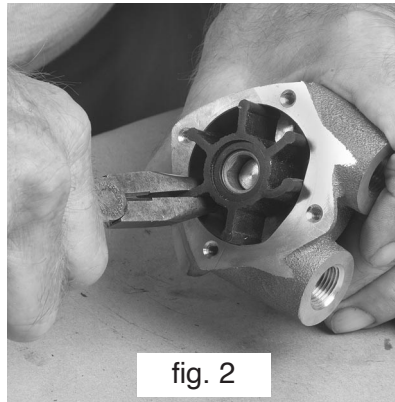

fig. 2
- 3) Remove the impeller by gripping the flexible blades at different locations around the impeller as you "walk" the impeller out of the chamber (fig. 2).